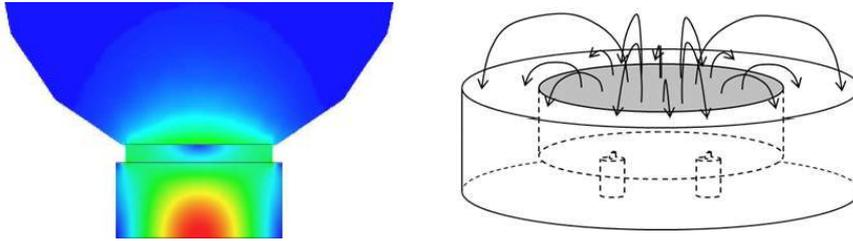

Figure 1. Conceptual drawings of the ceramic salinity sensor based on microwave resonance technology
gies provide quantitative measurements in many types of field conditions. One of these technologies (created by Emerson's Roxar unit) consists of a salinity sensor mounted flush against the wall of a subsea wet gas meter, which provides individual flow rates of gas, condensate, or oil and water. This salinity sensor design is ceramic and based on microwave (MW) resonance technology (figure 1).
from above. Older switch designs used floats. Newer designs might use a vibrating fork (figure 1) that vibrates at a different frequency when immersed in liquid than when exposed to air.
Figure 1. A vibrating-fork level switch can identify the presence of a liquid, which is sufficient for many level measurement applications. (Shown is Emerson's Rosemount 2140 Level Detector.)